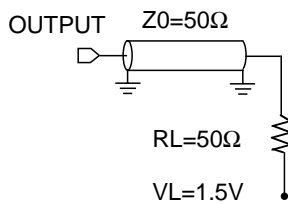
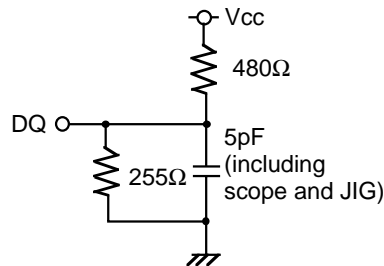

Fig.1 Output load
Fig.2 Output load for t_{en}, t_{dis}
(1) MEASUREMENT CONDITION
- Output loads Fig1 ,Fig2
5. Transition is measured $\pm 500\text{mV}$ from steady state voltage with specified loading in Figure 2.